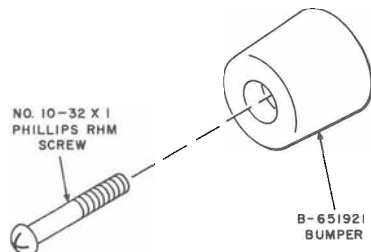

Fig. 27—B-651921 Bumper with Mounting Screw
*The B-651921 bumper (Fig. 27), listed in Table C, is a replacement part; however, all booths have not been equipped with these bumpers. A No.*
3. NO. 8-32 BY 1/4 PHILLIPS RHM SCREW (2)
*10-32 tapped hole is provided on the right side rail for installation. Ensure that this bumper is either present or installed on each maintenance check. Use screw described in Fig. 27.*